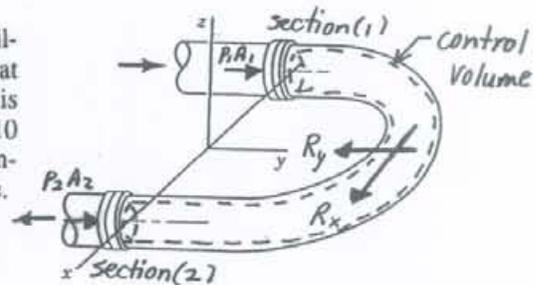

FIGURE P5.40
5.40 Water flows through a horizontal, 180° pipe bend as is illustrated in Fig. P5.40. The flow cross section area is constant at a value of 9000 mm^2 . The flow velocity everywhere in the bend is 15 m/s . The pressures at the entrance and exit of the bend are 210 and 165 kPa , respectively. Calculate the horizontal (x and y) components of the anchoring force needed to hold the bend in place.